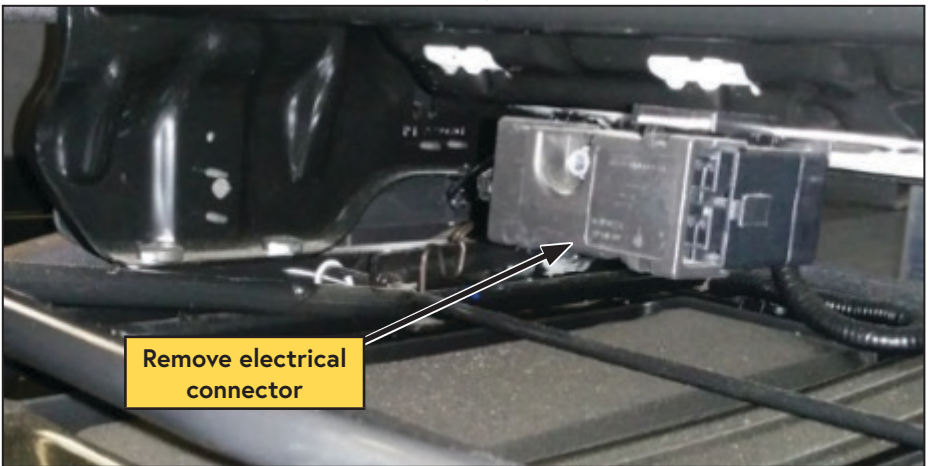

Figure 3 — Seat electrical connector
- Remove the seat electrical connector (Figure 3).